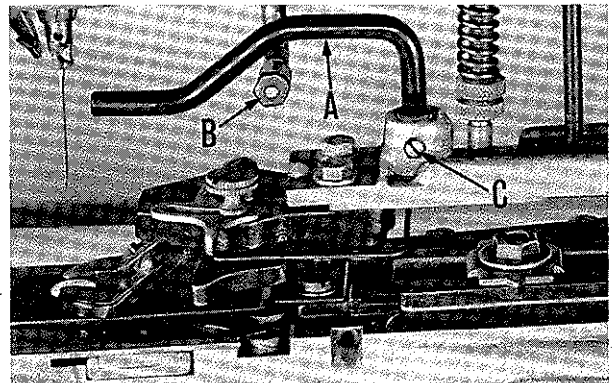

Fig. 10
Take machine out of stop position, and turn pulley in operating direction until button clamp is in its furthest position to the rear. At this point, there must be clearance between the button clamp lifting rod (A, Fig. 10) and the button clamp lifting roller (B). Adjustment is made by loosening screw (C) and moving rod (A) up. This will affect the height of the button clamp in relation to the feed plate as previously described, but for the normal setting of  $1/2$  inch, no interference between lifting rod and roller will occur.